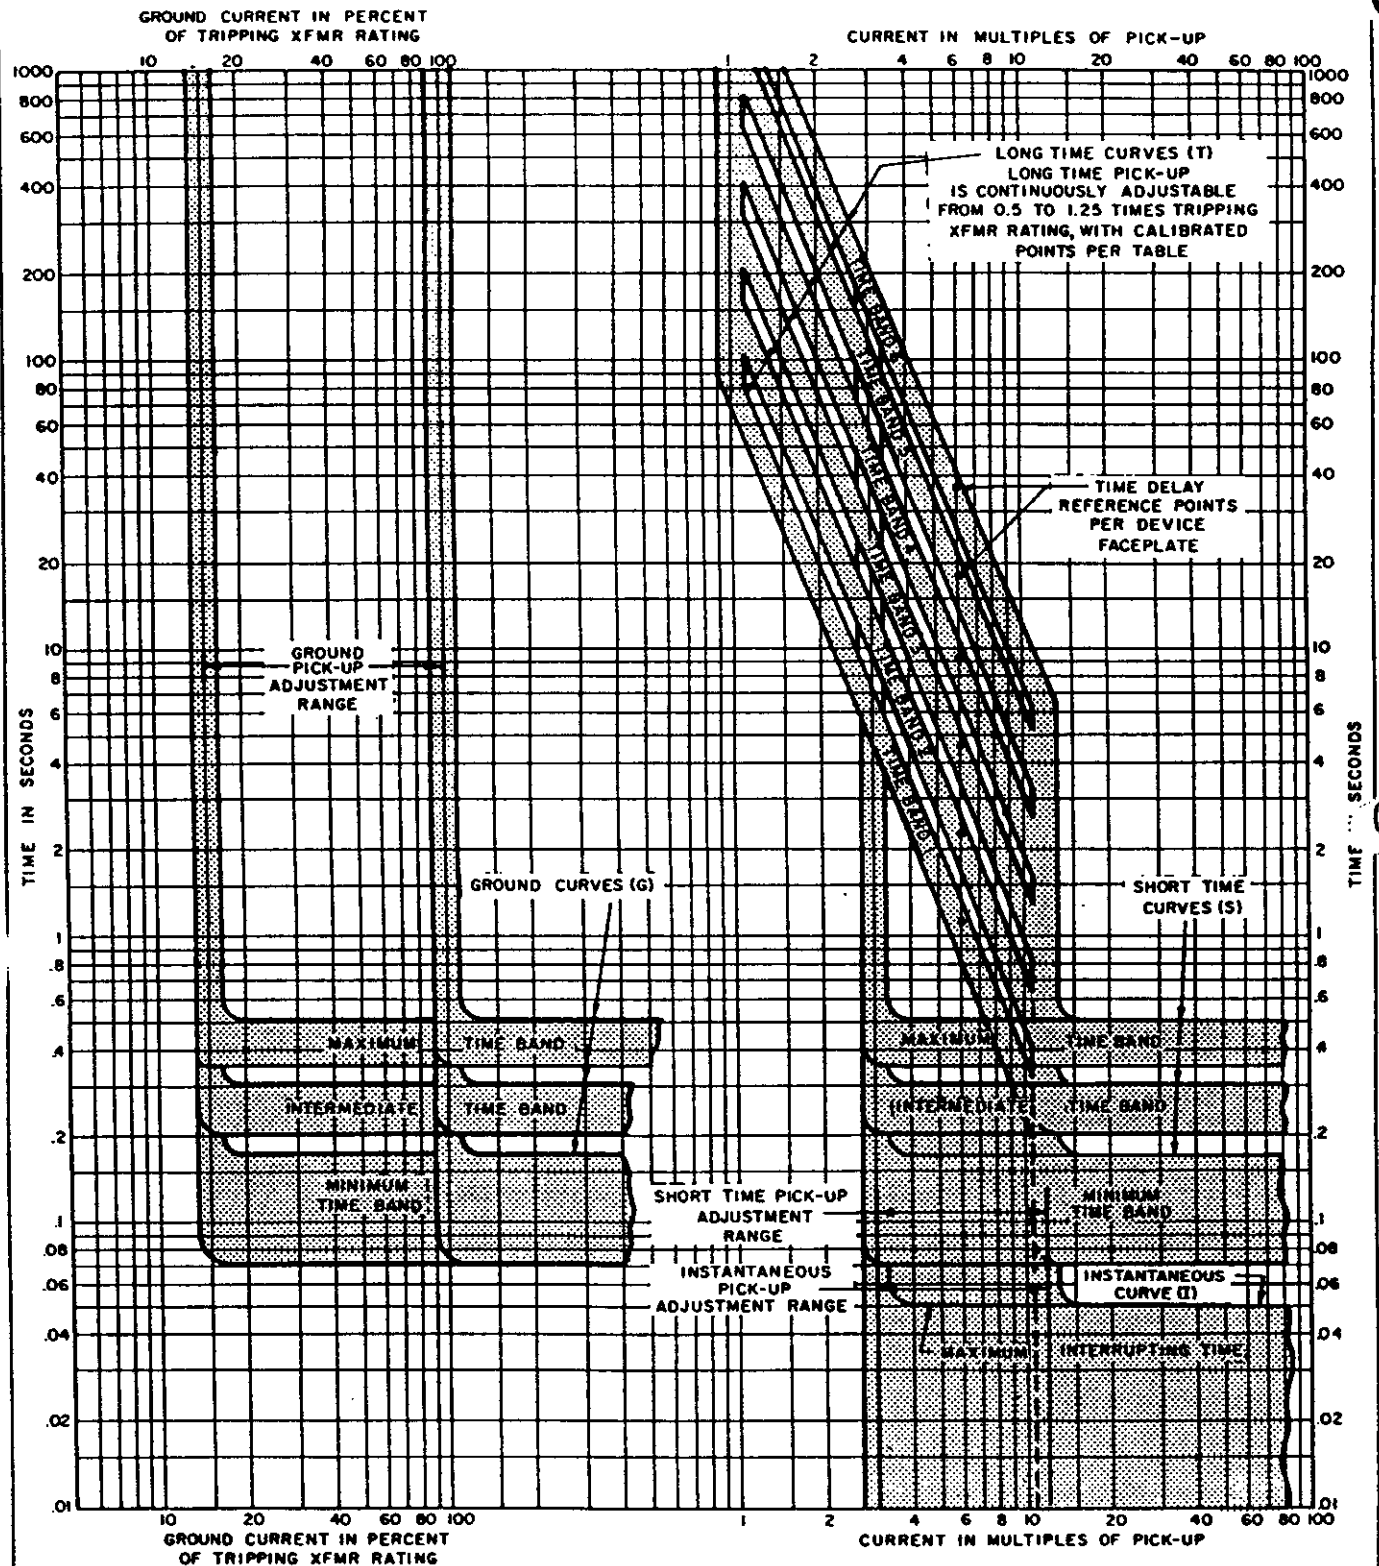

Figure 6. — Time-Current Curves - Static Trip II
If the time delay is tested at an input current 6 times the pick-up setting, the nominal time delays will be as shown in the table on the trip device. Maximum and minimum limits can be determined by reference to the time current characteristic curves, Figure 6.
6. When the trip device operates, check the reading of the stop clock against the curves in Figure 6. The reading should be approximately the same as shown on the faceplate of the device, but must be within the limits shown on the curves. If not, recheck all settings and repeat the test.
8. Repeat for the other phases (by changing green plug to terminal 2 for phase 2, and terminal 3 for phase 3) time delay bands and other values of current, as desired. All test points should fall within the bands of Figure 6. Each time band should have precisely twice the delay of the next lower band when all other conditions are the same.
5. Press the START button, the delay should be .35 to .50 seconds. See Figure 6.
6. Repeat for "Short Time Band" settings of "Intermediate" and "Minimum", compare to Figure 6. The other phase circuits and different values of current can be tested if desired. Make current settings as quickly as possible to avoid over heating.
5. Press the START button. The breaker should trip in 0.4 and 0.5 seconds. See Figure 6. If the device has a target, its red button should pop out.